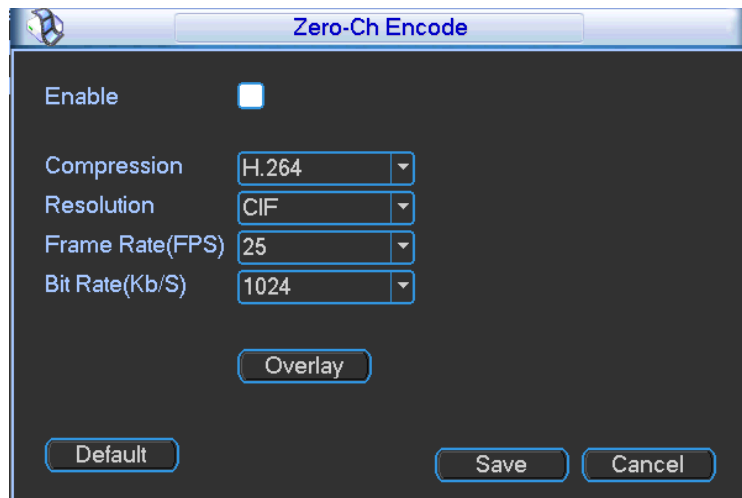

Figure 4-73
- Zero-Channel Encoding (Multiple-Preview) : Click Setup button, you can go to the following interface. See Figure 4-73. Here you can enable and set zero-channel encoding function so that you can view several video sources at one channel.